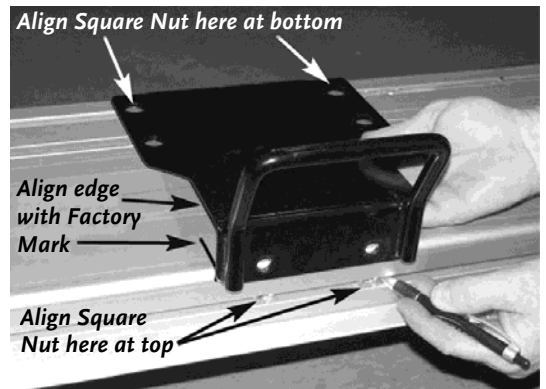

Figure 12
12. At end of blade, insert two square nuts in each channel – flat side facing out. Slide nuts over to hinge and align them with holes at top and bottom (**Figure 12**).